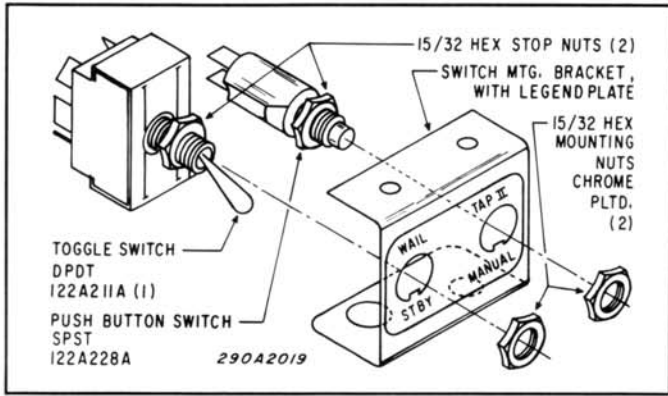

Figure 4. Installation of Switches.
4. See figure 4. Install the toggle switch in the position marked WAIL/STBY. Observe the keyway. Install the pushbutton in the position